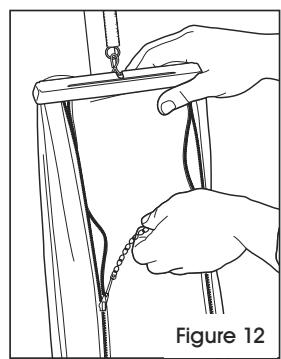

Figure 12
6. Replace the bag cap and pull up on the dual zipper connector to secure the back of the outer bag. (See Figure 12)